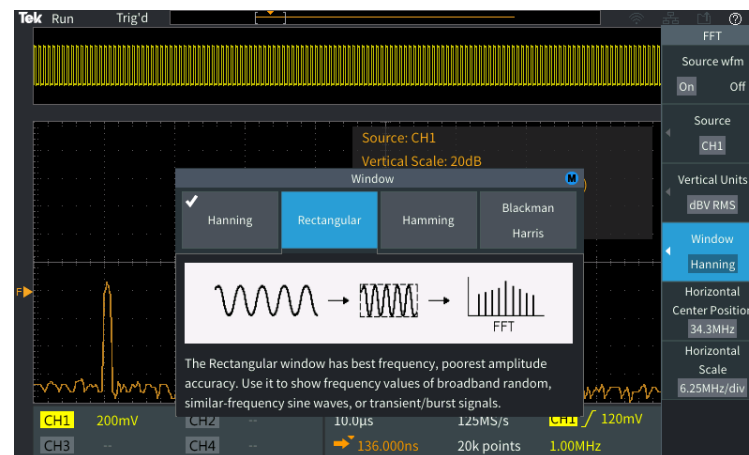

Figure 2. A HelpEverywhere tip helps with FFT setup. You'll see more tips as you work through the rest of this booklet.
4. When you use the Trigger, Measure, and Cursor function later on, you'll see HelpEverywhere tips that explain trigger modes, measurements, and cursor types (Figure 2).